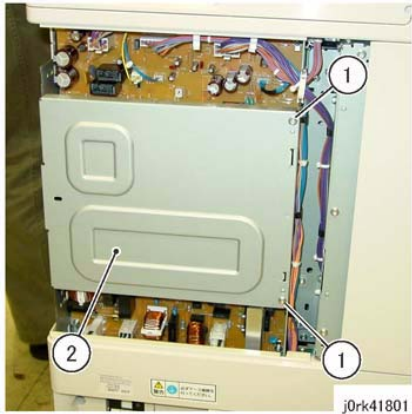

Figure 1 Main LVPS Cover
3. Remove the Main LVPS Cover. (Figure 1)